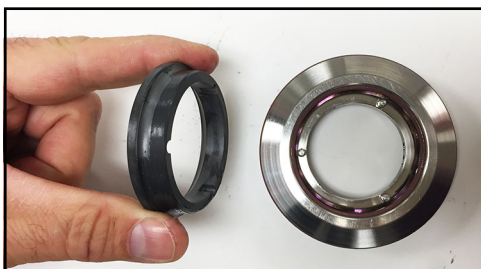

Figure 58 - Remove seal
1. Remove the seal from the product side of the seal carrier, and place it on a clean, protected surface as shown in Figure 58.